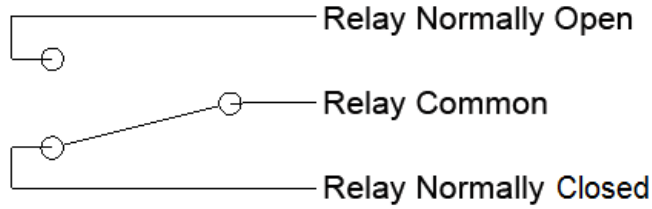

Figure 20: Internal Schematic of Interlock Relay Contacts
- Functionally similar to Signal Relay but higher current capability (see *Figure 20: Internal Schematic of Interlock Relay Contacts* for schematic)